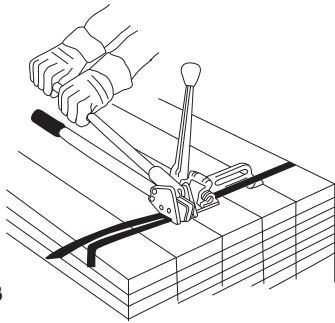

Figure 3
2. Bring the sealer handles completely together to assure a proper notch. (See Figure 3)